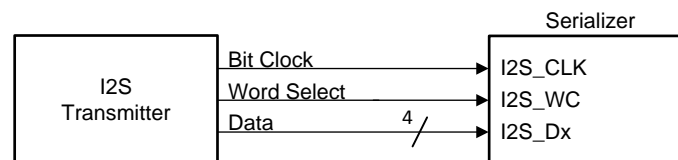
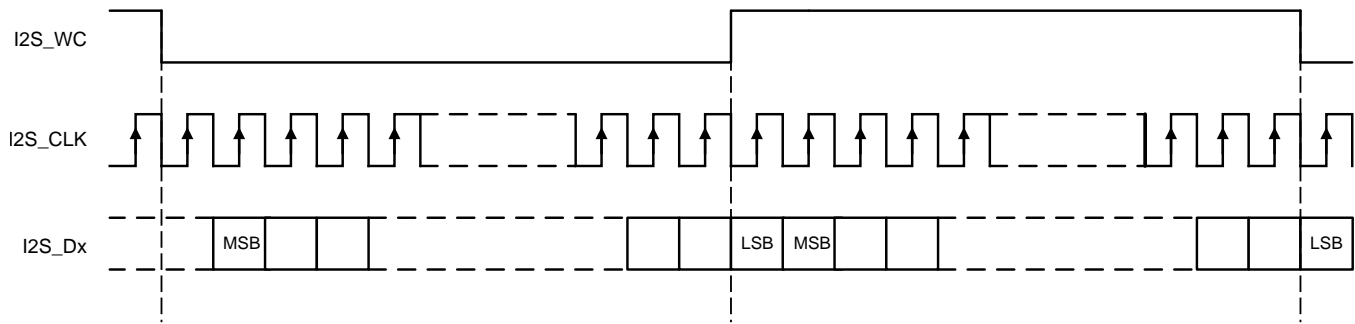

图 15. I2S Connection Diagram
图 16. I2S Frame Timing Diagram
The DS90UH949A-Q1 serializer features six I2S input pins that, when paired with a compatible deserializer, supports 7.1 High-Definition (HD) Surround Sound audio applications. The bit clock (I2S_CLK) supports frequencies between 1 MHz and the lesser of IN_CLK/2 or 13 MHz. Four I²S data inputs transport two channels of I2S-formatted digital audio each, with each channel delineated by the word select (I2S_WC) input. Refer to 图 15 and 图 16 for I2S connection diagram and timing information.